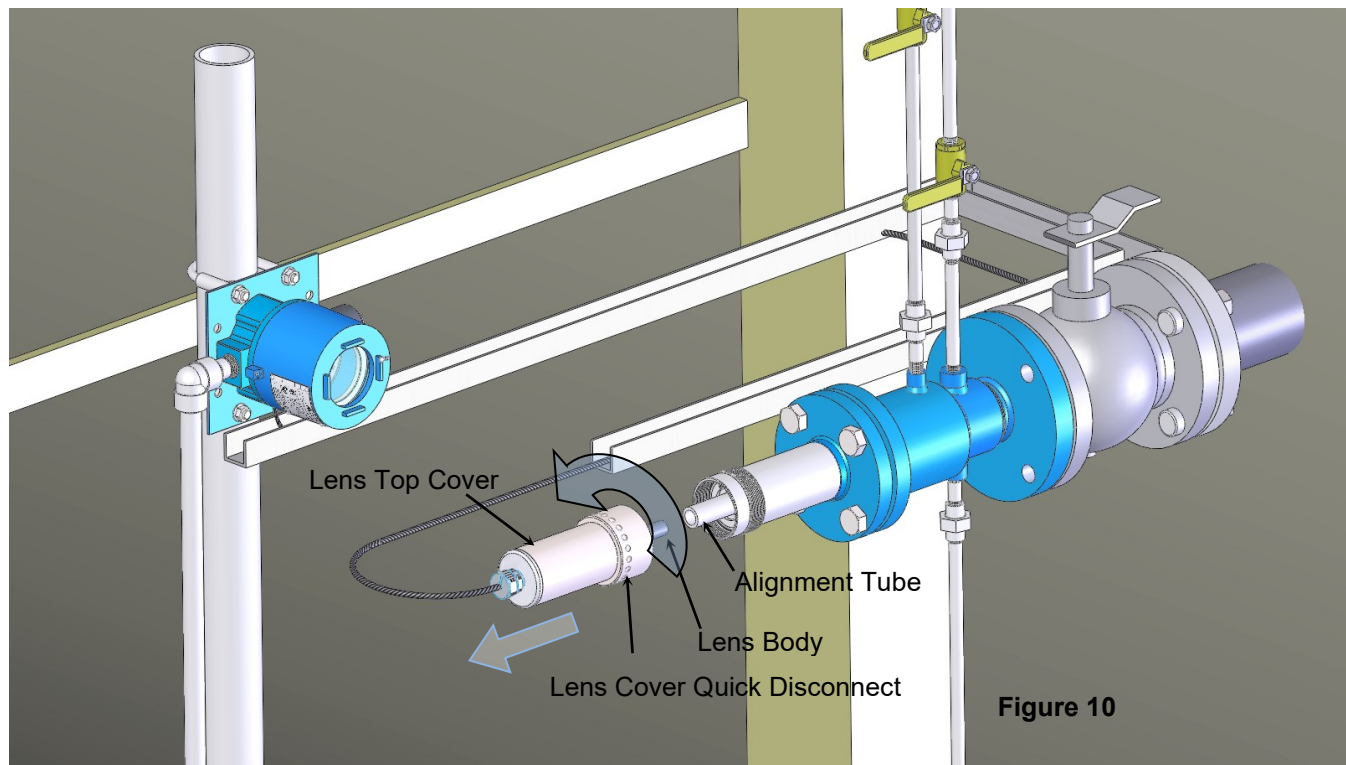

Figure 10
1. Unscrew the lens cover quick disconnect and remove the lens top cover as shown in Figure 10. Be careful not to allow the weight of the cover to damage the fiber optic cable.